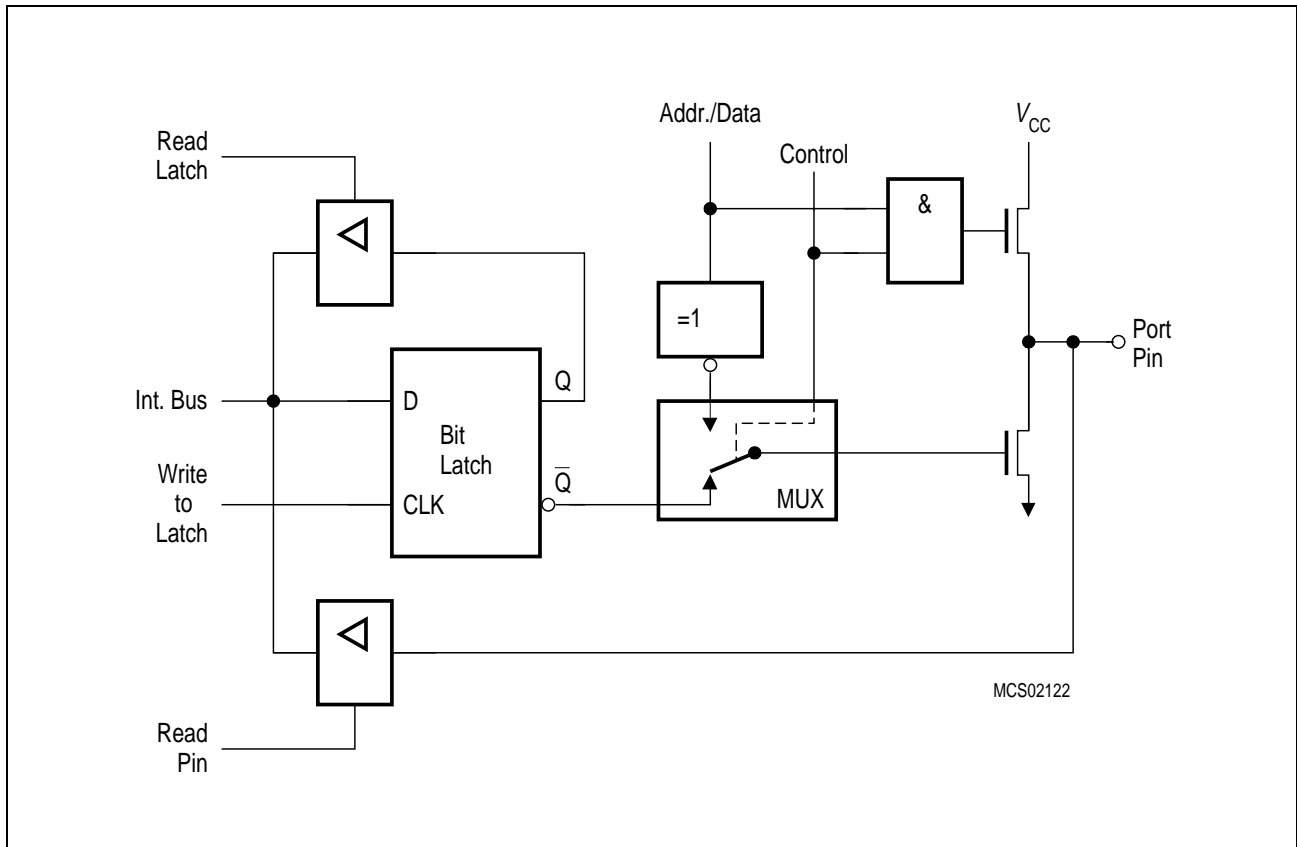
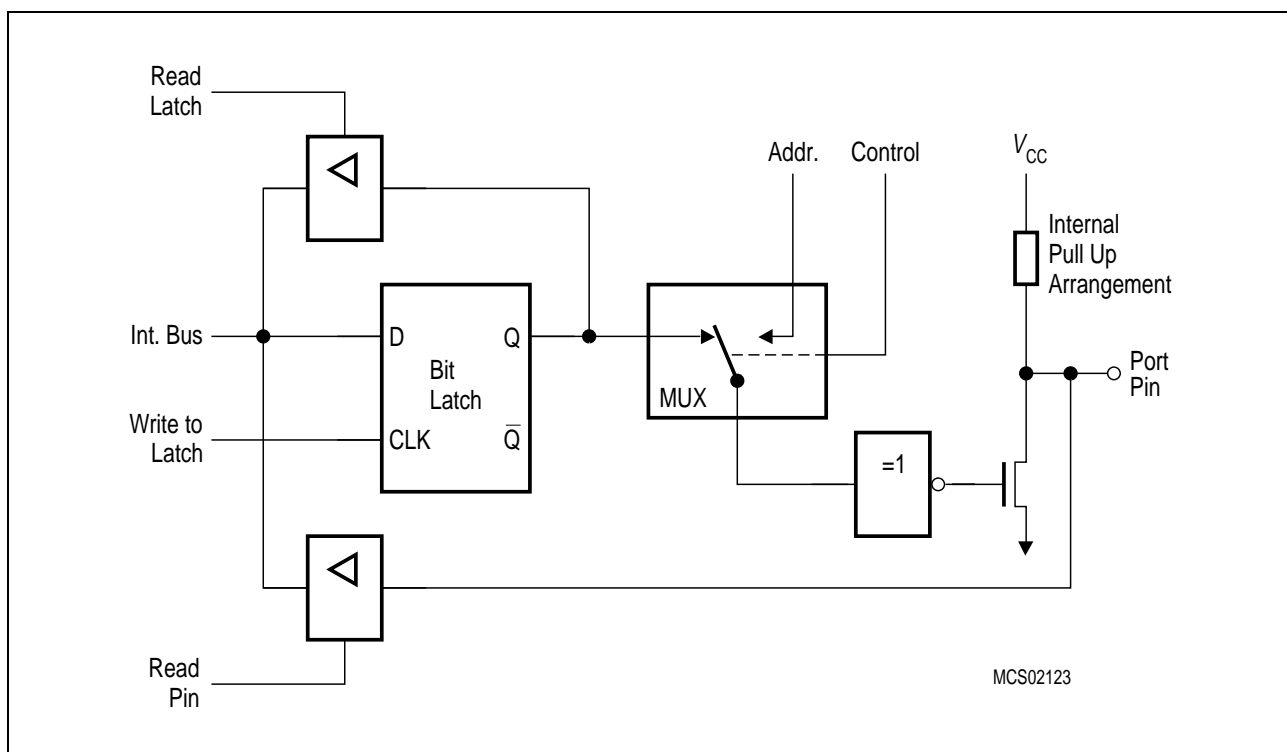

Figure 6-4a Port 0 Circuitry
Figure 6-4b
Port 0, in contrast to ports 1, 2 and 3, is considered as "true" bidirectional, because the port 0 pins float when configured as inputs. Thus, this port differs in not having internal pullups. The pullup FET in the P0 output driver (**see figure 6-4a**) is used only when the port is emitting 1 s during the external memory accesses. Otherwise, the pullup is always off. Consequently, P0 lines that are used as output port lines are open drain lines. Writing a "1" to the port latch leaves both output FETs off and the pin floats. In that condition it can be used as high-impedance input. If port 0 is configured as general I/O port and has to emit logic high-level (1), external pullups are required.
As shown in **figure 6-4a** and below in **figure 6-4b**, the output drivers of ports 0 and 2 can be switched to an internal address or address/data bus for use in external memory accesses. In this application they cannot be used as general purpose I/O, even if not all address lines are used externally. The switching is done by an internal control signal dependent on the input level at the \overline{EA} pin and/or the contents of the program counter. If the ports are configured as an address/data bus, the port latches are disconnected from the driver circuit. During this time, the P0/P2 SFR remains unchanged. Being an address/data bus, port 0 uses a pullup FET as shown in **figure 6-4a**. When a 16-bit address is used, port 2 uses the additional strong pullups p1 to emit 1's for the entire external memory cycle instead of the weak ones (p2 and p3) used during normal port activity.